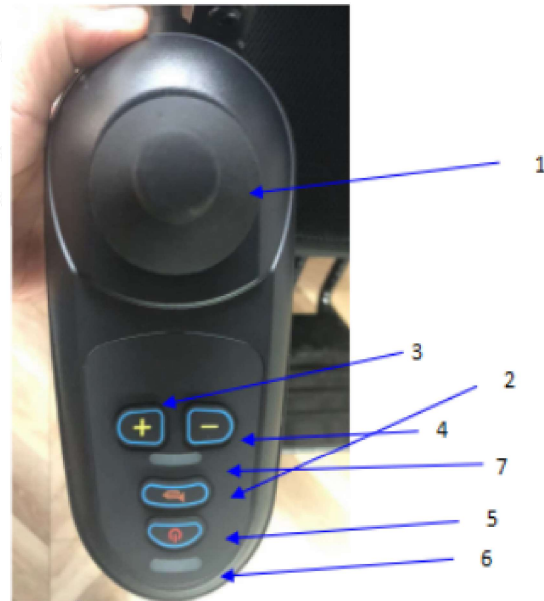

Figure 6
- (9) Press the "power on button" to turn on the power of the controller, and at the same time the "battery power indicator light" and "speed grade display" lights are lit. The "battery power display" light is on to indicate that the wheelchair is powered on, the more the light is on, the more sufficient the power is; the "speed gear display" light has 5 levels, all on indicate the highest speed, the less on, the lower the speed limit (see Figure 6).